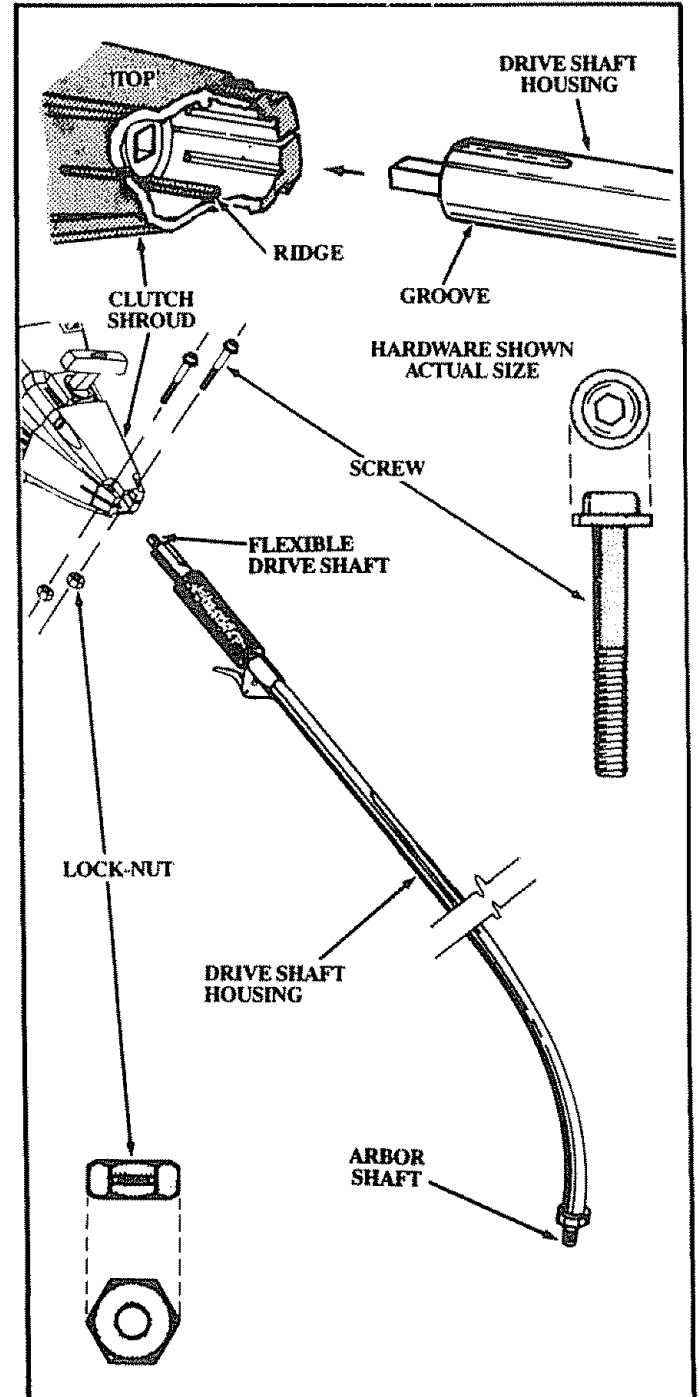

Figure 1
### 1. DRIVE SHAFT HOUSING — Figure 1
- Place the two Screws (from the loose parts bag) into the holes on the Clutch Shroud as shown in Figure 1.
- Align the bottom groove on the Drive Shaft Housing with the Ridge on the inner, lower wall of the Clutch Shroud opening. Turn the Arbor Shaft as necessary to align the square end of the Flexible Drive Shaft with the square inside the Clutch Shroud opening. Firmly push the Drive Shaft Housing into the Clutch Shroud until it contacts the Foam Grip or is within 1/8 inch. Figure 1.